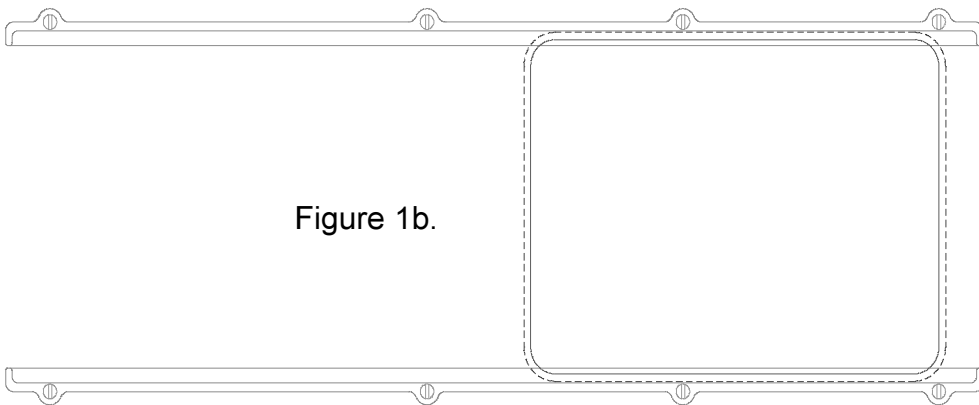
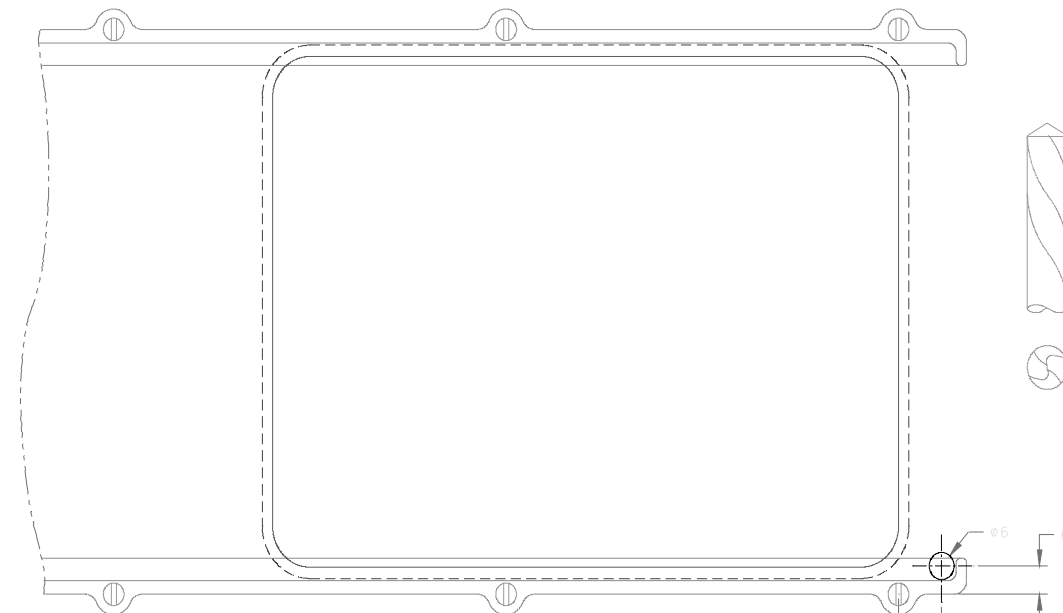
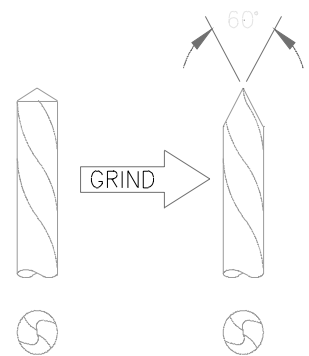

Figure 1b.
Figure 2b.
Figure 2a.
8. **Special Tools:** 6mm (ref. 15/64") drill dressed as shown in Figure 2a, page 2
- 10.2 If the style shown in Figure 1b is installed, a 6mm (ref 15/64") drill will need to be dressed as shown in Figure 2a. The hole is to be located as shown in Figure 2b.